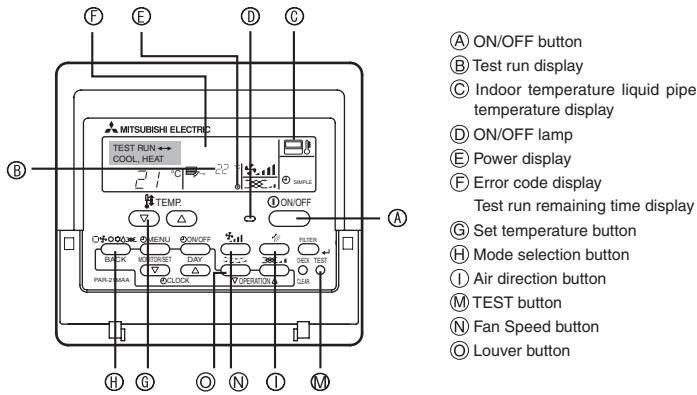

Fig. 7-1
7.2.1. Using wired remote controller (Fig. 7-1)
- ① Turn on the power at least 12 hours before the test run.
- ② Press the [TEST] button twice. ➡ "TEST RUN" liquid crystal display
- ③ Press the [Mode selection] button and switch to the cooling (or heating) mode. ➡ Make sure that cold (or warm) wind is blown out.
- ④ Press the [Fan speed] button. ➡ Make sure that the wind speed is switched.
- ⑤ Press the [Air direction] button or [Louver button].
- ⑥ Check operation of the outdoor unit fan.
- ⑦ Release test run by pressing the [ON/OFF] button. ➡ Stop
- ⑧ Register a telephone number.